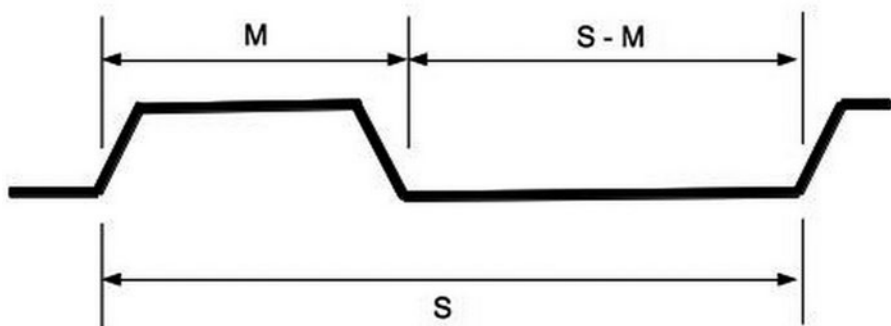

Figure 7-1. *M/S signal*
In M/S mode, the signal consists of cycles of mark and space. The mark (1) signal is sent with a length M , and the space (0) signal is sent with a length $S-M$ (S is the length of the entire cycle). Figure 7-1 illustrates the relationship between M and S (for a noninverted signal).